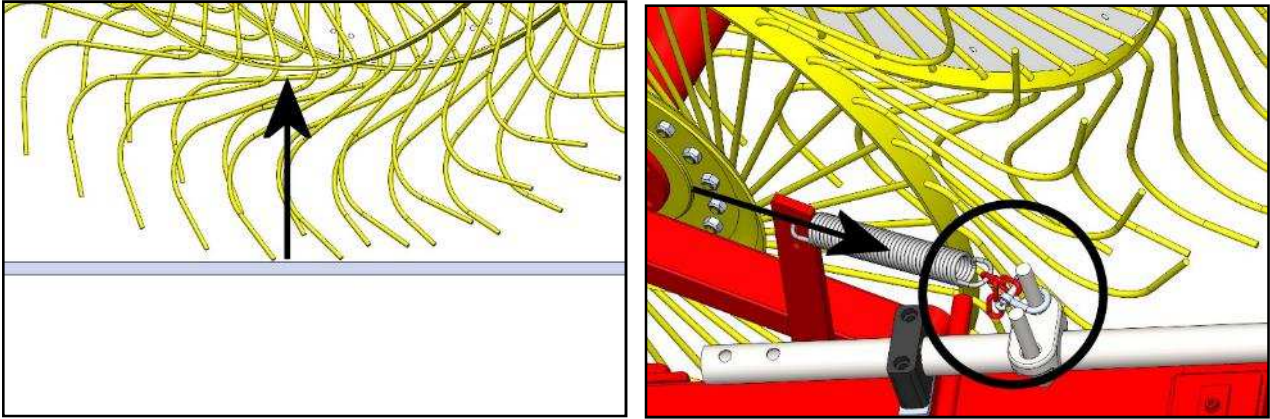

Figure 35
- If it is too low, lift the unit to be adjusted by hand with the help of a colleague standing in front of the front star wheel, and move the upper hook of the lightening spring into the immediately higher link of the chain in order to raise the star wheel unit (*see Figure 35*); repeat the operation until the required setting is achieved (the rear star wheel must be at least 3 mm / 0.12 inches above the ground).